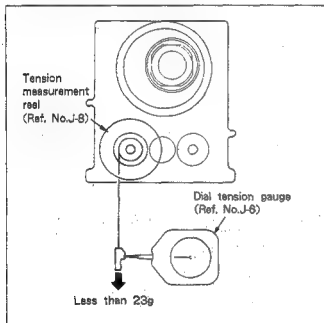

Fig. 7-56.
1. S main brake torque (See Figs. 7-56, and 7-57.)